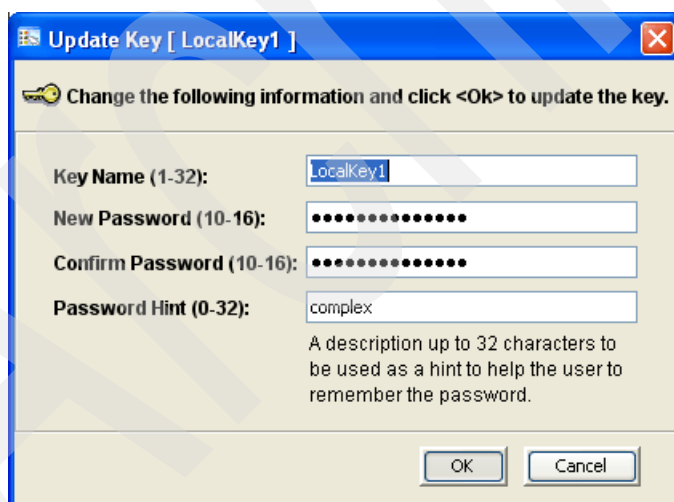

Figure 12-67 Update Key window
4. You can change the key name, password or password hint in the window shown in Figure 12-67. We changed the password to complicatedkey to remove the upper case characters, since the password is case sensitive.
Click **OK** after you have completed your changes. Figure 12-67